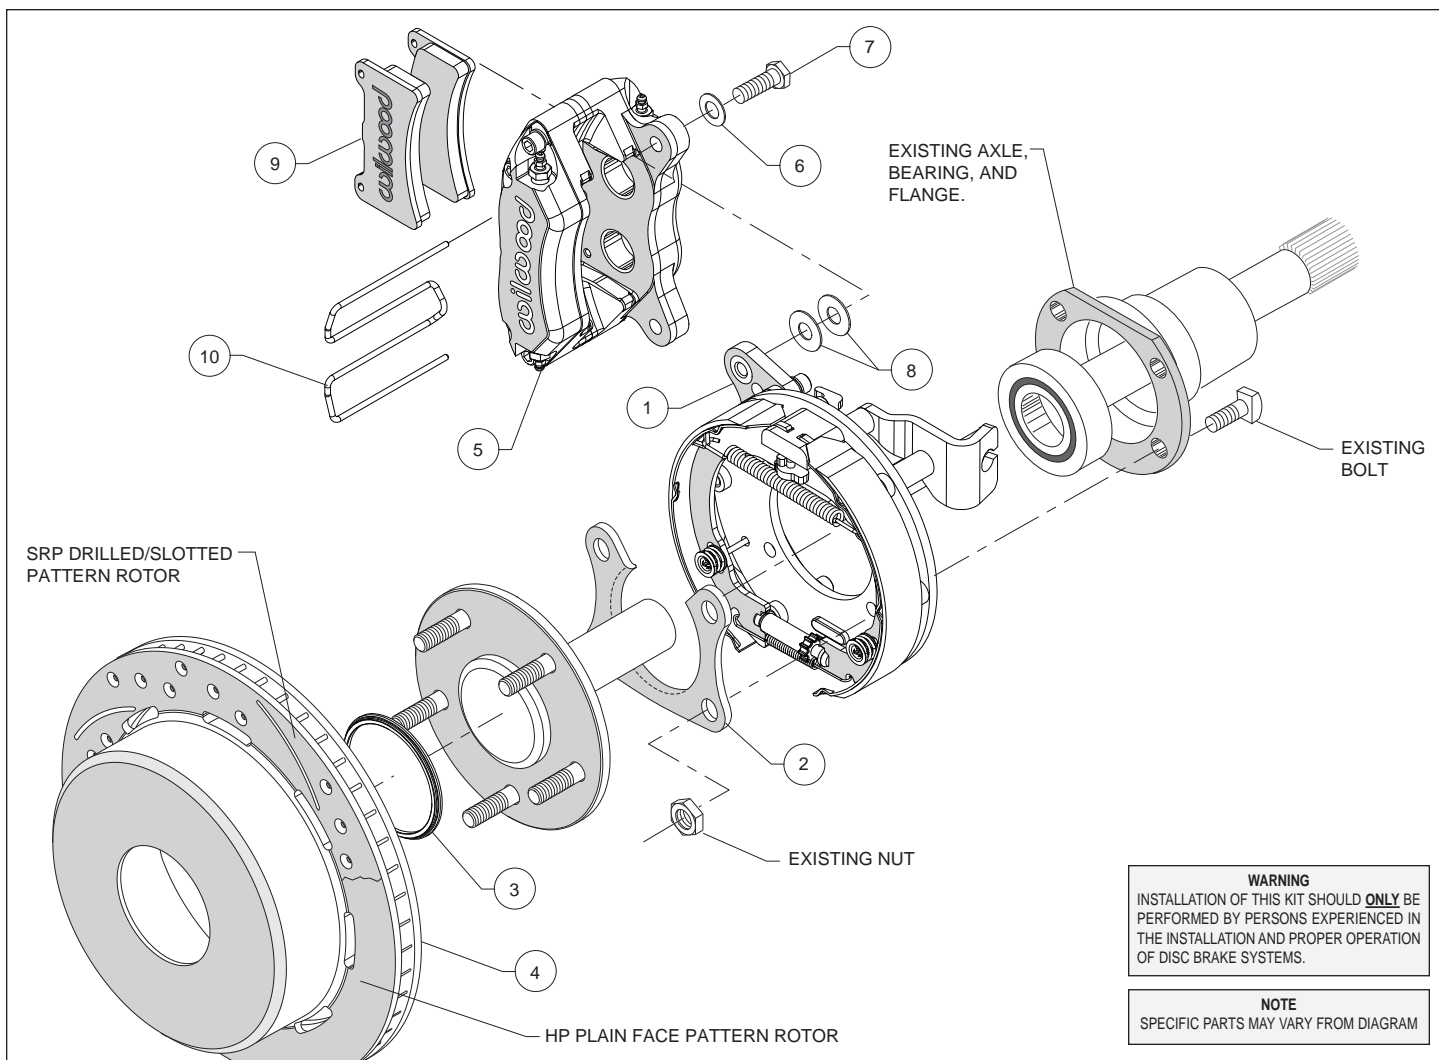
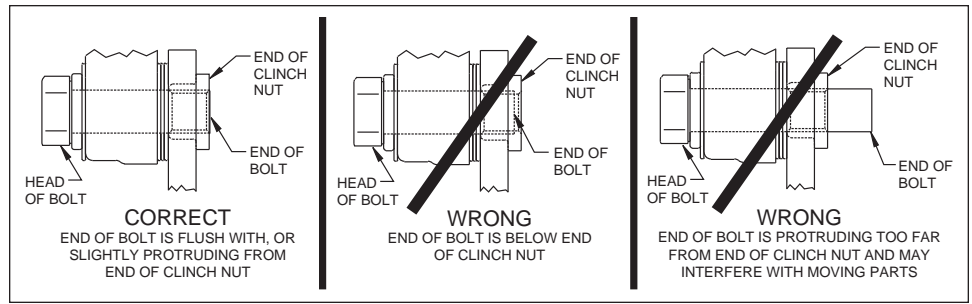

Figure 1. Typical Installation Configuration
Figure 5. Clinch Nut Engagement Diagram
Assembly Instructions (numbers in parenthesis refer to the parts list, and Figure 1 on the preceding pages): **CAUTION:** All mounting bolts must fully engage clinch nuts. Be sure to check that all bolts are either flush or protruding through flanged side of clinch nut after shimming, Figure 5.
- Orient the bracket assembly (1) as shown in Figure 1 and Photo 1 and slide it onto the axle. Insert the axle and bracket into the axle housing. Ensure that the bracket assembly backing plate fits flush against the axle housing flange.
- Install the bearing retainer (2) with the opening pointing upward and the lip facing inward (toward the bearing), as shown in Figures 1 and 4, and Photo 2. Secure retainer and bracket assembly to the axle housing flange using the Original Equipment Manufacturer (OEM) bolts and nuts, Figure 1. Apply red *Loctite*® 271 to the OEM bolt threads and torque to OEM specifications.
- Slide the rotor registration adapter (3) onto the axle register on the axle flange with the smaller O.D. facing toward the rotor/hat (4), Photo 3. **NOTE:** Verify axle stud size and patten. Then have a qualified machine shop drill the bolt circle of the hat/rotor to the correct stud size and pattern. Slide the hat/rotor into place, Figure 1 and Photo 4. **NOTE:** The rotor/hat must fit flush against the axle flange or excessive rotor run out may result. Install three lug nuts (finger tight) to keep the rotor/hat assembly in place while continuing with the installation.
- NOTE:** Please reference the caution statement at the beginning of the assembly instructions. Mount the caliper (5) onto the caliper mounting bracket (1) using bolts (7) and washers (6), as shown in Figure 1. Initially place two .035" thick shims (8) on each bolt between the caliper and the bracket, Photo 5. Temporarily tighten the mounting bolts and view the rotor (4) through the top opening of the caliper. The rotor should be centered in the caliper, Photo 6. If not, adjust by adding or subtracting shims between the bracket and the caliper. Always use the same amount of shims on each of the two mounting bolts. **NOTE:** The end of each bolt must be flush with or slightly protruding from the head of the clinch nut, as shown in Figure 5. If necessary place spare shims between washer (6) and caliper mounting ear to achieve the proper clinch nut engagement. Once the caliper alignment and clinch nut engagement are correct, remove the bolts one at a time, apply red *Loctite*® 271 to bolt threads, and torque to 40 ft-lb.